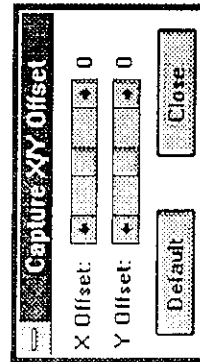

Figure 3-24.
6. SELECT "Capture X/Y Offset" to adjust the color within the video window if the color does not appear correct (see Figure 3-24).